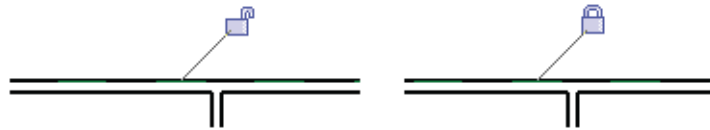

Figure 2–33
- You can lock alignments so that the elements move together if either one is moved. Once you have created the alignment, a padlock is displayed. Click on the padlock to lock it, as shown in Figure 2–33.
- Select the **Multiple Alignment** option to select multiple elements to align with the first element, as shown in Figure 2–34. You can also hold down <Ctrl> to make multiple alignments.